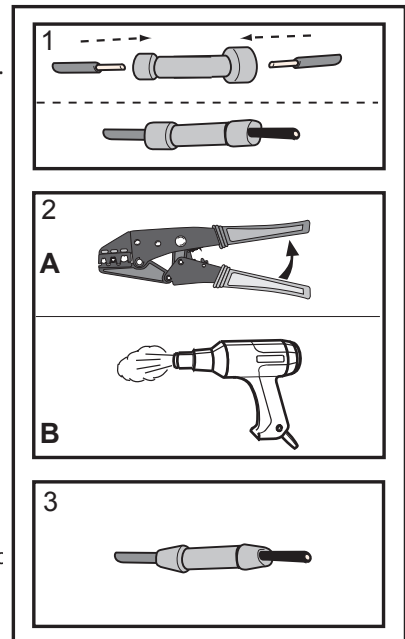

fig. 1
8. Remove the 14-pole connector. Cut the wire at position 9 of the 14-pole connector. Connect the last red wire of the wiring harness to this wire of the vehicle (see figure 1). Cut the wire at position 5 of the 14-pole connector. Connect the black and brown wire of the wiring harness to this wire of the vehicle.